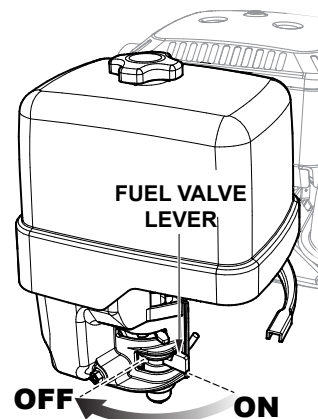

Figure 43. Fuel Valve Lever (OFF)
4. Place the fuel valve lever in the **OFF** position (Figure 43).